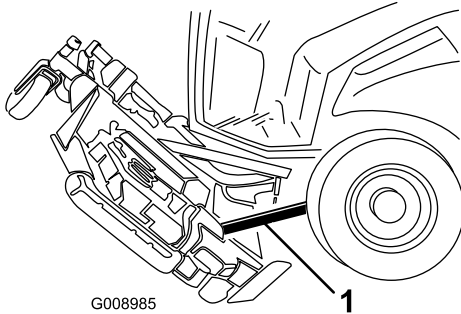

Figure 104
6. Wedge a block of wood between the rear of the deck and the machine (Figure 104).